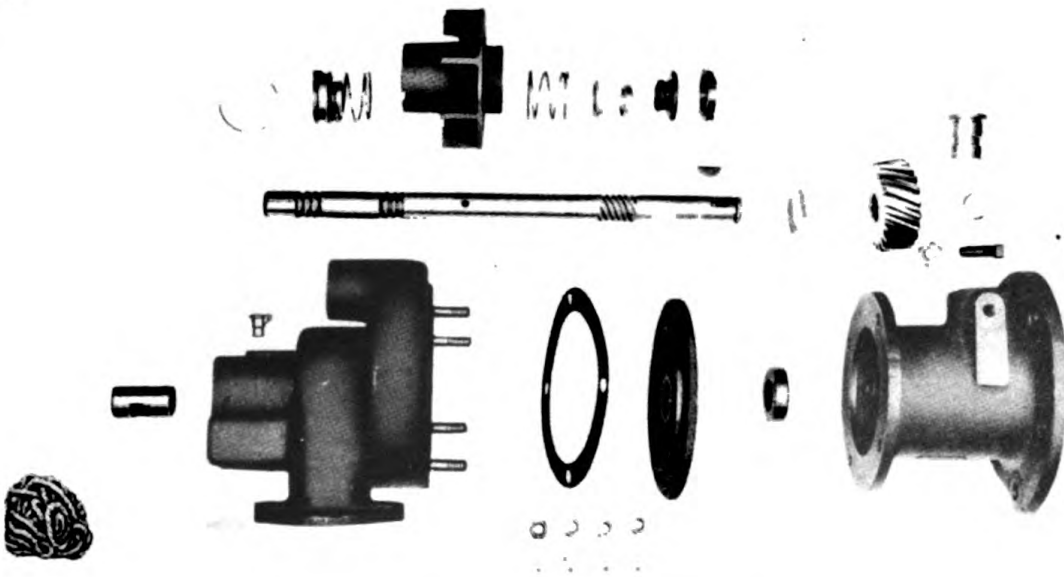

Figure 225. Exploded View of Water Pump.
- e. Install both of the seals in the impeller in their proper order as shown in figure 225 and grease the inside of the water pump flexible seals.